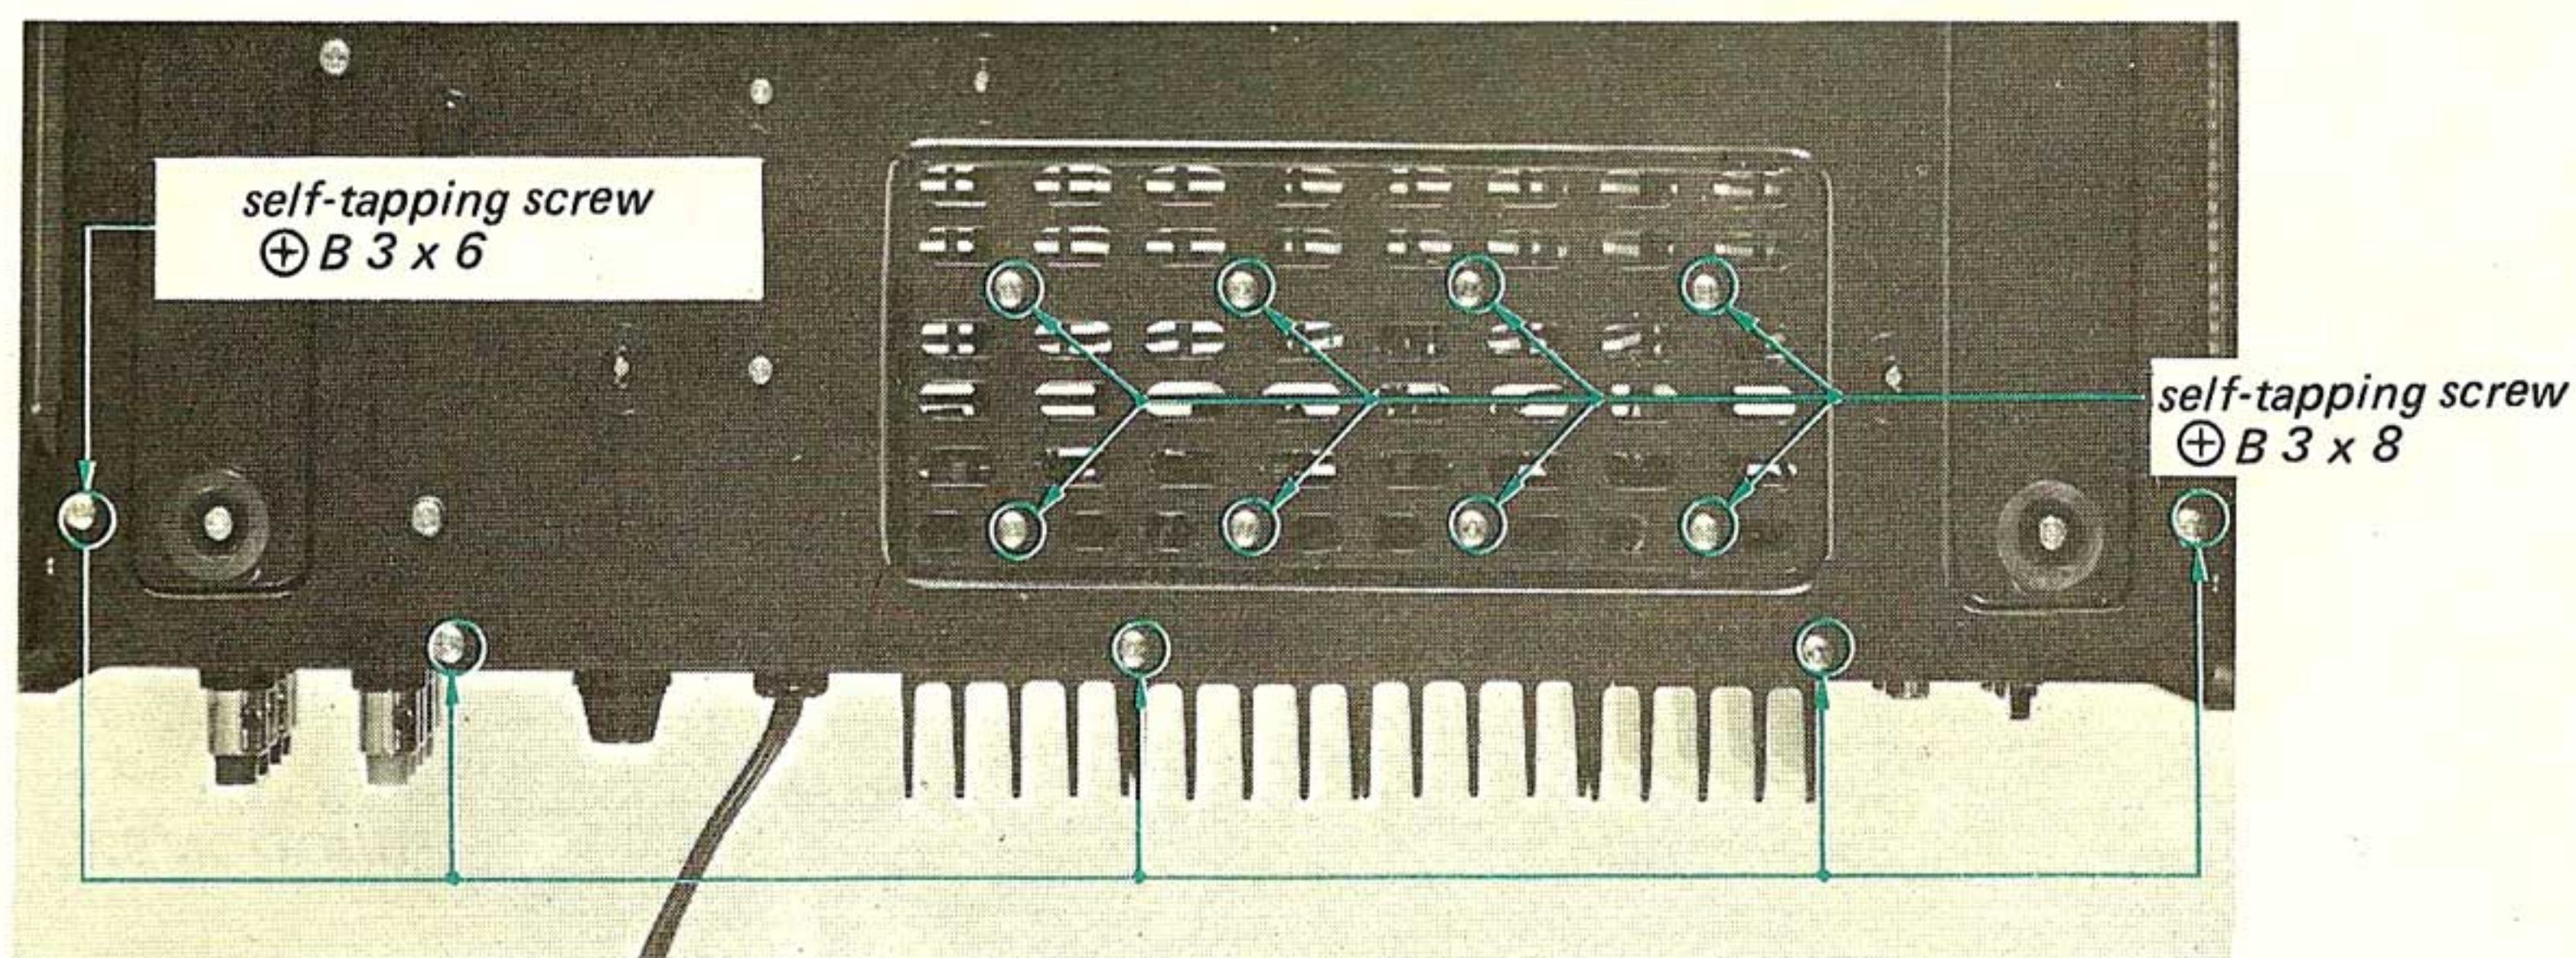

Fig. 2-6 Heat sink and rear panel removal
2. Remove the self-tapping screws (+B 3 X 8) securing the heat sink to the chassis from the bottom. See Fig. 2-6.
1. Remove the five self-tapping screws (+B 3 X 6) at the rear bottom side of the chassis as shown in Fig. 2-6.